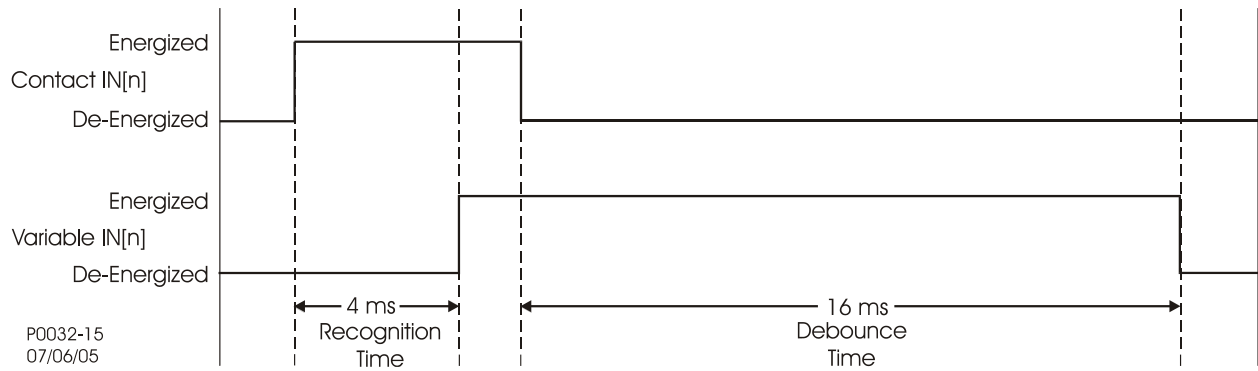

**Figure 4-2. Contact-Sensing Jumper Locations (H or P Type Case)**
3. Locate the two jumper terminal blocks that are mounted on the Digital Circuit Board. The Digital Circuit Board is the middle board in the assembly and the jumper terminal blocks are located on the component side of the circuit board. Each terminal block has two sets pins. With the jumper as installed at the factory, one pin should be visible when viewed from the side of the unit. This configuration allows the inputs to operate at the higher end of the control voltage range. Figure 4-2 illustrates the location of the contact-sensing jumpers. The jumpers are shown in the HIGH position.